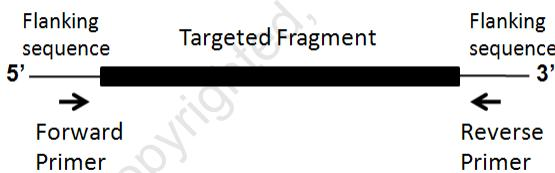

Figure 4
- d The extra flanking sequence will ensure the PCR product covers the entire targeted DNA fragment. The primers should be designed within the flanking regions of the target fragment (see Figure 4 below). A shorter flanking sequence can be selected, such as 25 bp, if a primer can be designed within that flanking sequence.